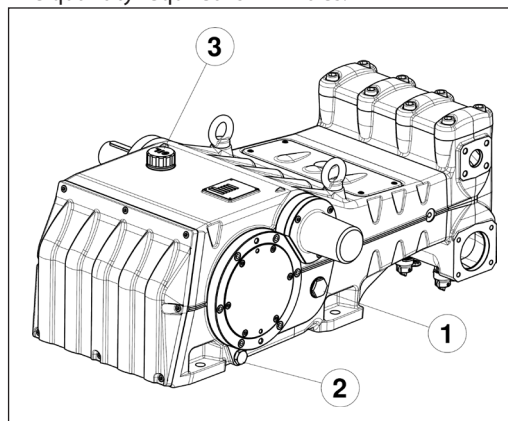

Fig. 3
Check the oil level via the indicators on the sides ①, Fig. 3.
If necessary, top up via the oil cap ③, Fig. 3.
The correct checking of the oil level is made with the pump not running, at room temperature. The oil change must be made with the pump at working temperature, removing the plug pos. ②, Fig. 3.